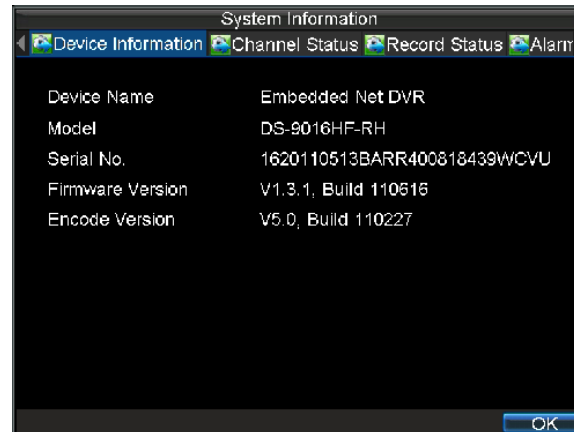

Figure 14. System Information
1. Enter into the Information menu, shown in Figure 14 by clicking Menu > Maintenance > Information.